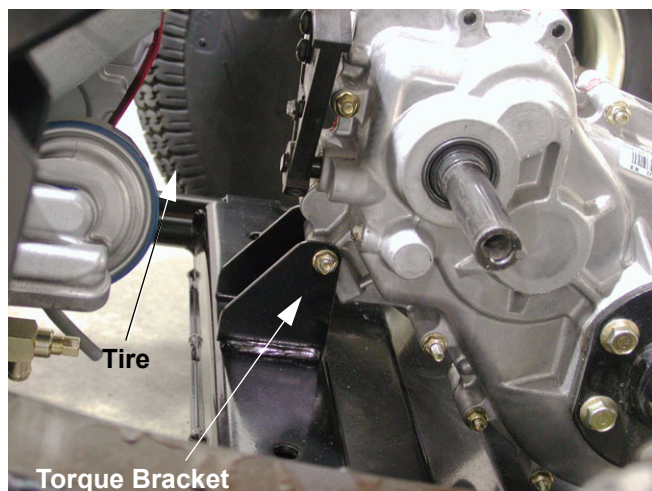

Figure 7.29
7.29. Remove the bolt that connects the front of the transaxle housing to the torque bracket on the engine/transaxle cradle using a 3/8" wrench and at 7/16" wrench. See Figure 7.29.